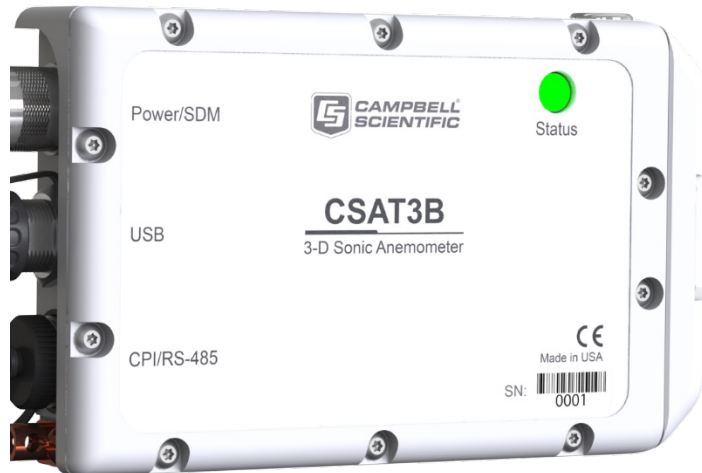

FIGURE 4-8. Lit status light on CSAT3B block
4. Verify that measurements are being made by ensuring the green **Status** light (FIGURE 4-8) on the CSAT3B block is blinking, indicating that measurements are being made and recorded in the datalogger without diagnostic error conditions.